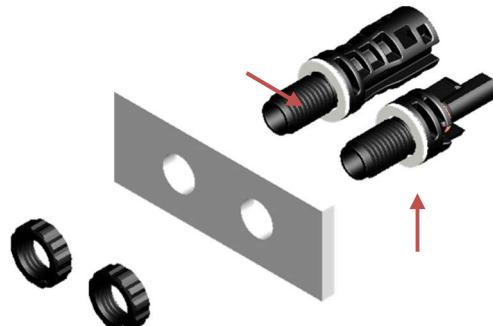

Figure 16
- ✧ 在公/母面板连接器插入钻孔前，请确保已安装防水垫圈，且防水垫圈安装在墙板的外侧(如图 16)
Please ensure seal gasket is located and positioned outside of the mounting surface before the male or female panel connector inserts the drilled hole (Fig.16).